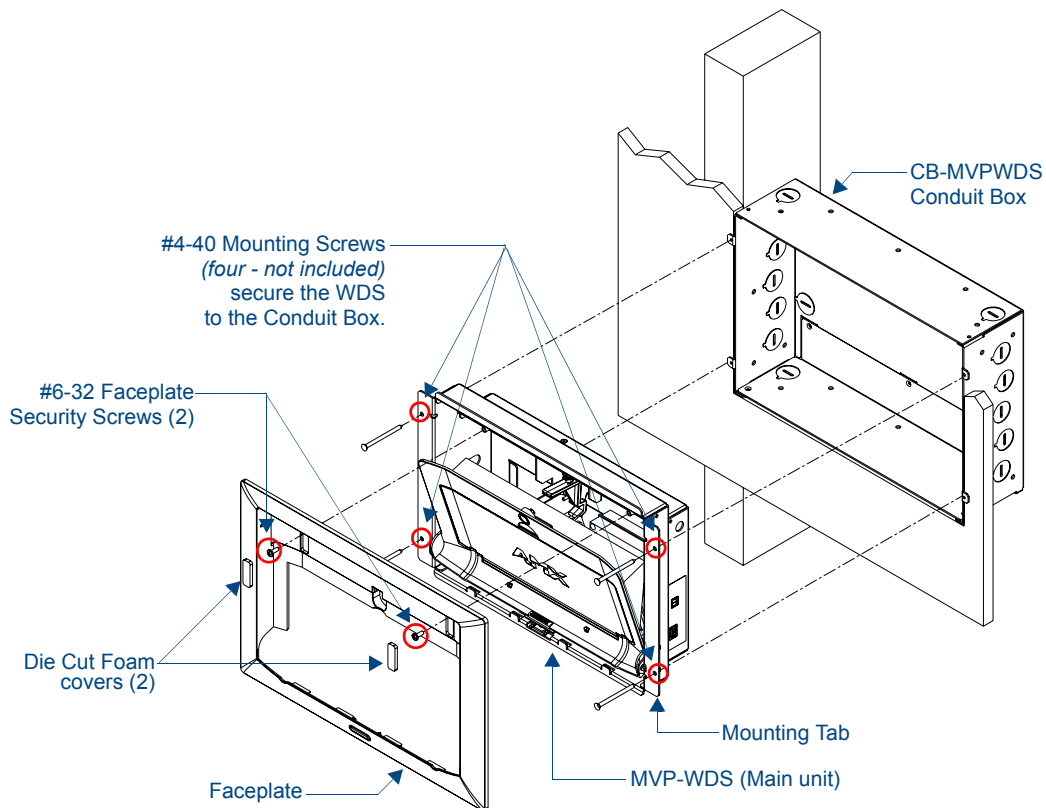

FIG. 9 MVP-WDS installation configuration within a CB-MVPWDS Conduit Box
2. Insert the WDS into the conduit box, so that the Mounting Tabs on the WDS lie flush against the conduit box (FIG. 9).
4. Slide the Faceplate over the angled Support Cradle, toward the Security Release pushbutton's circuit board on the MVP-WDS (FIG. 9).